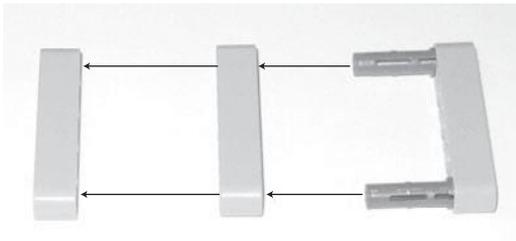

Figure 12.7
Step 2: Connect three 5M straight beams together using a pair of 3M connector pegs with friction, as shown in Figure 12.7.